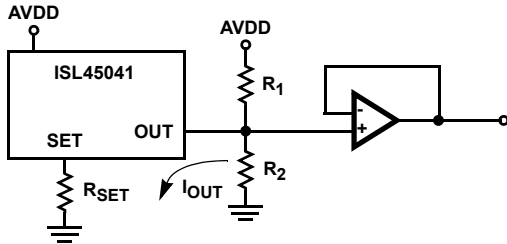
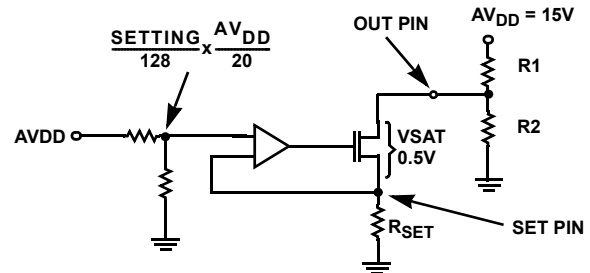

FIGURE 1. OUTPUT CONNECTION CIRCUIT EXAMPLE
FIGURE 2. OUTPUT CONNECTION CIRCUIT EXAMPLE
Electrical Specifications Test Conditions: V_{DD} = 3.3V, AV_{DD} = 18V, R_{SET} = 5k Ω , R1 = 10k Ω , R2 = 10k Ω ; (See Figure 1) Unless Otherwise Specified. Typicals are at T_A = +25°C. **Boldface limits apply over the operating temperature range, 0°C to +85°C.**
Electrical Specifications Test Conditions: $V_{DD} = 3.3V$, $AV_{DD} = 18V$, $R_{SET} = 5k\Omega$, $R1 = 10k\Omega$, $R2 = 10k\Omega$; (See Figure 1) Unless Otherwise Specified. Typical values are at $T_A = +25^\circ C$. **Boldface limits apply over the operating temperature range, $0^\circ C$ to $+85^\circ C$.** (Continued)
- A typical Current of 20 μA is Calculated using $AV_{DD} = 10V$ and $R_{SET} = 24.9k\Omega$. Reference "R_{SET} Resistor" in Figure 2.
The external R_{SET} resistor sets the full-scale sink current, I_{SET} maximum, that determines the lowest voltage of the external voltage divider R_1 and R_2 (Figure 1). The voltage difference between the OUT pin and SET pin (Figure 2), which are also the drain and source of the output transistor, must be greater than 1.75V. This will keep the output transistor in its saturation region to maintain linear operation over the full range of register values. Expected current settings and 7-bit accuracy occurs when the output MOS transistor is operating in the saturation region. Figure 2 shows the internal connection for the output MOS transistor. The value of the AV_{DD} supply sets the voltage at the source of the output transistor. This voltage is equal to $(\text{Setting}/128) \times (AV_{DD}/20)$. The I_{SET} current is therefore equal to $(\text{Setting}/128) \times (AV_{DD}/20 \times R_{SET})$. The drain voltage is calculated using Equation 2. The values of R_1 and R_2 (Equation 2) should be determined using I_{OUT} maximum (setting equal to 128) so the minimum value of V_{OUT} is greater than $1.75V + AV_{DD}/20$.